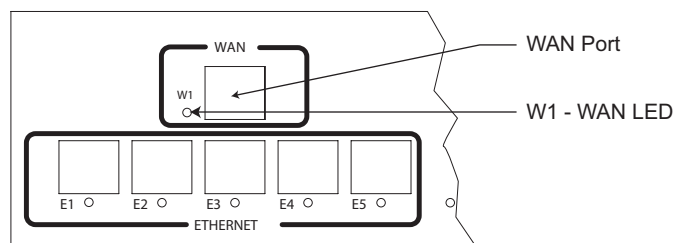

Figure 3-5. WAN Port
1. There is one WAN connection on the **DS1500-IFR** and one on the **DS1500-XFR**. The WAN port, see **Figure 3-5**, can be a DDS or a T1/E1 port. An RJ48 is used for both the DDS and the T1/E1 ports. This is a modular connector that connects the **DS1500** to the external telecommunications network. It is assumed that prior to connecting this interface that the line and telecom equipment are ready to accept data traffic from the **DS1500** and the interfacing cable is already attached to this gear.
4. Once configured, verify that the W1 LED, see **Figure 3-5**, is illuminated.